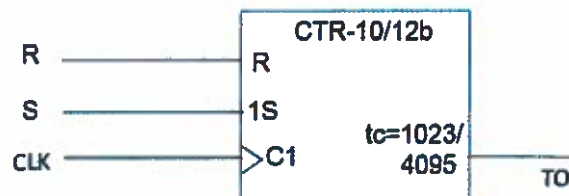

Figure 1.1
1. (a) *Figure 1.1* shows the schematic diagram of a binary counter with a clock signal CLK, a synchronous reset input R, and a synchronous select input S. The select input S is low if the counter is a 10-bit counter, and high if it is a 12-bit counter. The counter has one output signal TO, which goes high for one clock cycle when the counter reaches a value of 1023 or 4095 if S is 0 or 1 respectively. Specify this counter circuit in Verilog HDL so that it can be synthesized. Estimate and justify the number of Logic Elements (LEs) required to implement this design on a Cyclone III FPGA.